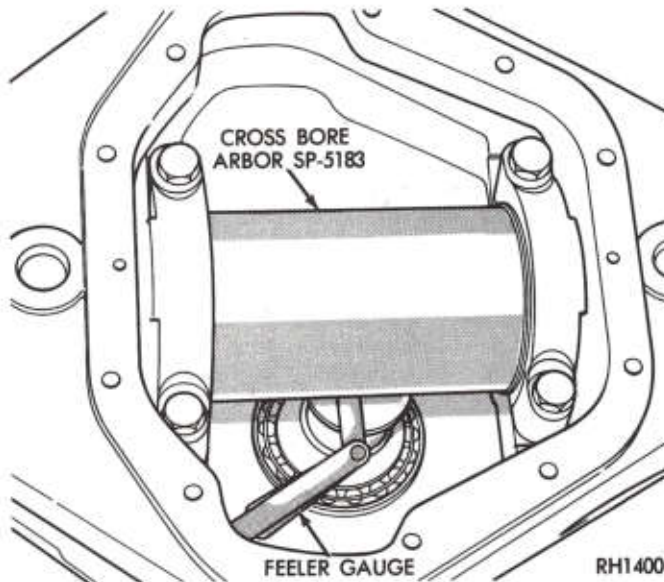

Fig. 29—Determining Shim Pack Thickness for Drive Pinion Depth of Mesh
(7) Install gauge block SP-5260 on main tool and tighten screw with an Allen wrench securely.
(8) Position cross bore arbor SP-5183 in axle housing in differential bearing seats. Center the arbor so that an approximate equal distance is maintained at both ends. Correctly position differential bearing caps and insert bolts and tighten to 10 ft. lbs. (14 N·m).
(9) Using a feeler gauge select the proper thickness of shims that will snugly fit between arbor and gauge block. This fit must be snug but not too tight (similar to the pull of a feeler gauge). This measurement is then used in determining the correct thickness shim pack for installation behind the rear pinion bearing cup and carrier casting (Fig. 29).
(10) To select a shim pack for installation, read the markings on the end of pinion head (-0, -1, -2, +1, +2, etc.). When marking is -(minus), add that amount to the thickness of shim pack selected in step (9). When the marking is +(plus), subtract that amount. Treat other pinion markings in a similar manner. Shims are available in .003, .005, and .010 inch (.08, .13, and .25mm) thickness. See, "Pinion Setting Chart".
(11) Remove the tool arbor and tool from axle housing.
(12) Using a brass drift or soft punch and hammer remove rear pinion bearing cup from casting.
(13) Position the correct shim pack in axle housing cup bore and install rear bearing cup as described previously in steps (1 thru 5). When cup is properly seated, remove tool and pinion bearing cones.